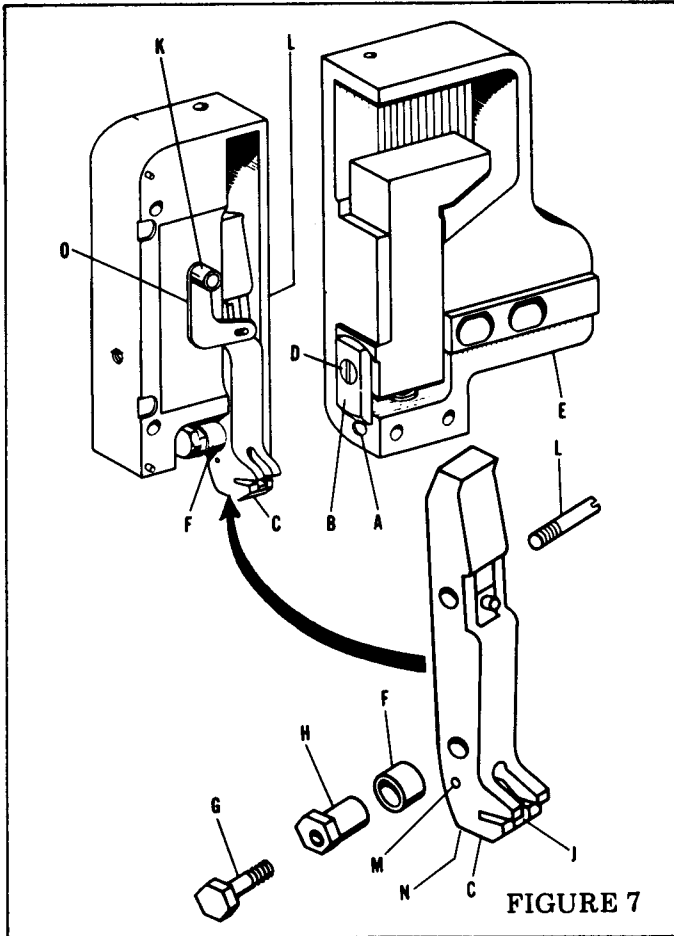

FIGURE 7
The purpose of the cut-off die and knife (Index A & B, figure 7) is to shear the wire cleanly. If the travel of the knife is insufficient, the wire may not be cut-off or it may be broken off roughly. The resulting burr may cause (1) the wire to buckle at the wire straightener or feed wheels, (2) the stitch legs to buckle because of the excessive resistance encountered when penetrating the work material, (3) a stitch leg to wander in the work material and miss the clincher. If the knife travels too far, the left leg of the stitch may be deformed and buckle. If the knife binds and sticks in the down position, it will block the wire exit in the cut-off die and cause the wire to buckle.
2. Remove knife lock screw (Index D, figure 7). If only changing knife and not cut-off die, skip to step No. 6.
The mandrel (Index C, figure 7) performs three functions:
1. It receives wire from the cut-off die (Index A, figure 7) and holds the wire while it is being cut.
When the wire in the mandrel is carried under the formers, its alignment with the former grooves is insured by the mandrel eccentric and roller (Index F, figure 7). The roller rides against the right former and limits the inward travel of the mandrel. If the eccentric and roller are improperly adjusted, the wire in the mandrel will not be aligned with the former grooves. This causes the descending formers to break the wire into pieces or to nick or fracture the crown of the stitch. An improperly aligned mandrel can also cause the wire to be retained in the mandrel. This prevents the feeding of the next piece of wire into the mandrel, or permits two or more pieces of wire to jam in the mandrel which can result in a broken mandrel.
1. Loosen eccentric screw (Index G, figure 7).
2. Turn eccentric bushing (Index H, figure 7) to change the inward position of the mandrel.
The mandrel contains a spring actuated gripper (Index J, figure 7) which holds the wire in the mandrel while it is being cut off and continues to hold the wire to insure alignment for forming. This gripper is raised while the wire is being fed into the mandrel. If the gripper is broken, it cannot be raised. As a result, the wire will strike the side of the gripper and cause the wire to buckle between the wire straightener and the cutter block.
2. Raise the gripper by pushing to the left on the gripper lifter crank roller (Index K, figure 7). (If the gripper can't be raised, it is broken and must be replaced.)
1. Remove the mandrel pivot screw (Index L, figure 7). Depress the mandrel and slide it out from under the gripper lifter crank.
2. Remove the spring retaining block (Index N, figure 7) by driving out the pin (Index M, figure 7) which is located below the eccentric. Close inspection will be required to find this pin because the surface of the mandrel is polished after the pin is inserted.
The gripper lifter crank (Index O, figure 7) raises the gripper so that the wire can be fed into the mandrel. If the gripper lifter crank is worn or broken, the gripper cannot be raised. As a result, the wire strikes the side of the gripper and causes the wire to buckle between the wire straightener and the cutter block.